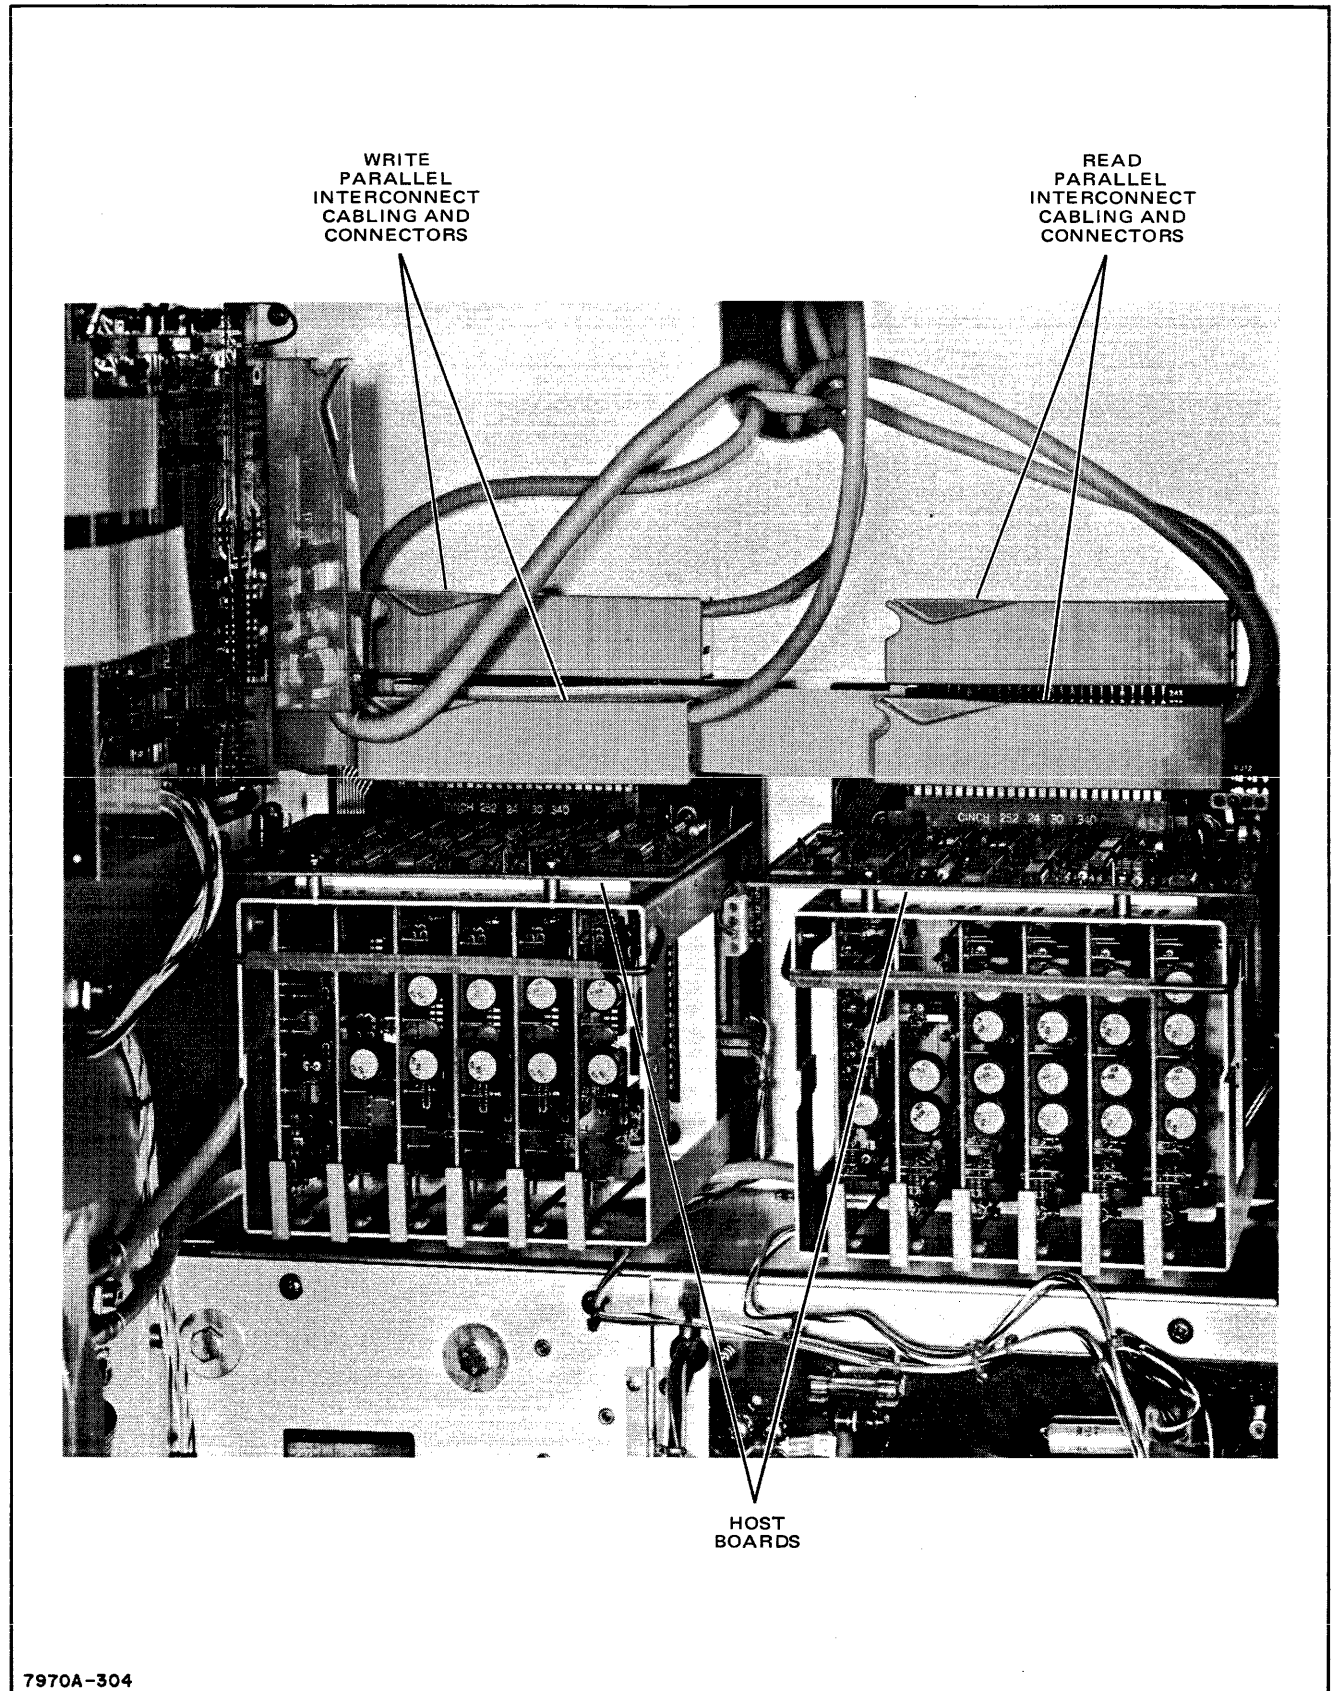

Figure 2-2. Paralleling-Cable Connectors Installed
c. Insert daisy-chain interconnect cabling (HP 13190A or 13190B Multi-Unit Cable Accessory Kit.) in appropriate connector of host parity card (figure 2-2).